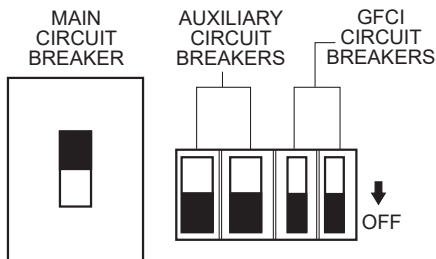

Figure 40. Main, Auxiliary, And GFCI Circuit Breakers (OFF)
1. Place the **main, auxiliary, and GFCI** circuit breakers (Figure 40) in the **OFF** position prior to starting the engine.